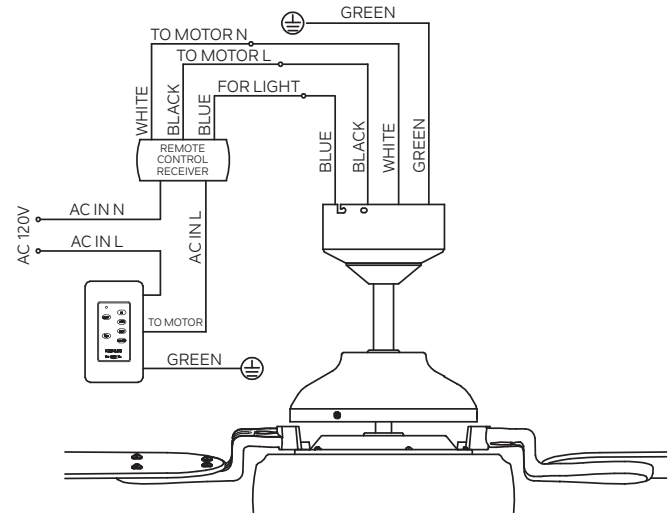

Fig. 16
**Step 2.** Motor to Receiver Electrical Connections: (Fig. 16) Connect the black wire from the fan to the black wire marked “TO MOTOR L” on the receiver. Connect the white wire from the fan to the white wire marked “TO MOTOR N” on the receiver. Connect the blue wire from the fan to the blue wire marked “FOR LIGHT” on the receiver. Secure all the wire connections with the plastic wire nuts provided.
**Step 3.** (Fig. 16) Receiver to House Supply Wires Electrical Connections: Connect the black (hot) wire from the ceiling to the black wire marked “AC in L” from the receiver. Connect the white (neutral) wire from the ceiling to the white wire marked “AC in N” from the Receiver. Secure the wire connections with the plastic wire nuts provided.
**Step 4.** (Fig. 16) If your outlet box has a ground wire (green or bare copper) connect it to the fan ground wires; otherwise connect the hanging bracket ground wire to the mounting bracket. Secure the wire connection with a plastic nut provided. After connecting the wires, spread them apart so that the green and white wires are on one side of the outlet box and black and blue wires are on the other side. Carefully tuck the wire connections up into the outlet box.